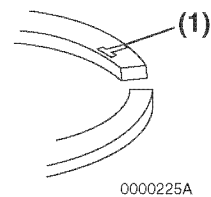

Figure 6-87
Note: Reinstall the top and second piston rings with the stamped “makers mark” (**Figure 6-87, (1)**) facing the top of the piston. The “makers mark” may vary in appearance but will always be located on the top surface of the piston ring adjacent to the piston ring gap. The oil ring and oil ring expander can be installed either side up.